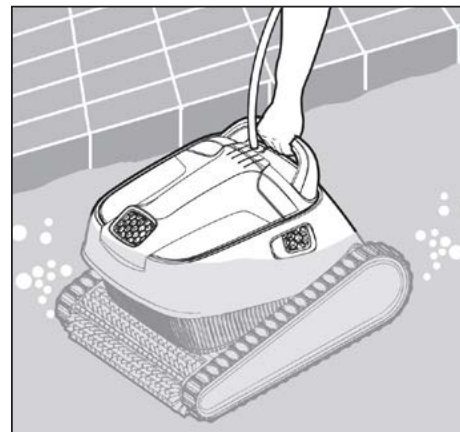

Figure 9
3. Using the handle, lift the cleaner out of the pool. See **Figure 9**.